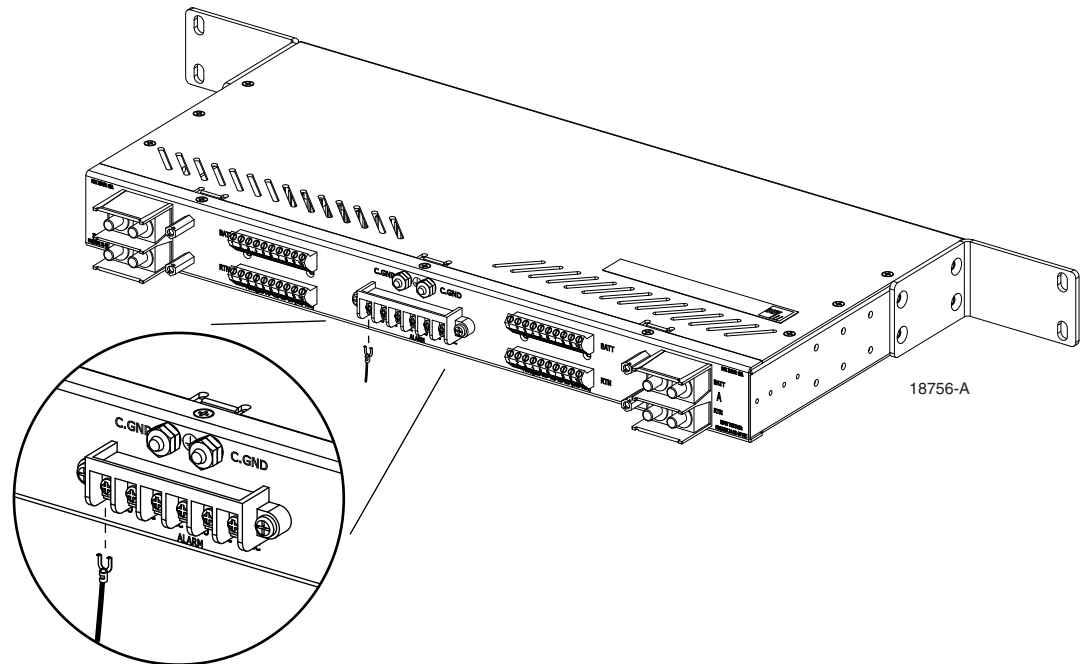

Figure 17. Screw-Down Barrier Strip Alarm Terminals
- Screw-down barrier strip alarm terminals, shown in Figure 17.
Use #12 to #24 AWG wire. Equip the wire leads with spade or crimp ring connectors having a maximum width of 0.375 inch (9.525 mm). The terminals also accommodate copper wire without lugs (with insulation stripped back). Use whichever method is dictated by local practice. Tighten the nuts to 9 pound-force inches (1 Newton-meters). Refer to Figure 17.